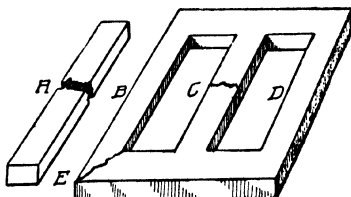

Fig. 35. Simple Case of Expansion and Contraction
**Handling Simple Case of Expansion and Contraction.** We will first consider the simplest condition of welding. Assume that a long bar which is free at each end has broken at point A, Fig. 35. In this case the welding may be carried out without any fear of encountering difficulties due to expansion and contraction. The bar is free to expand and contract at each end. While there might be some warping or deformation due to the heat of welding if the blowpipe is not handled properly, yet, there is very little danger of weakening the weld because of internal strains.
*Methods of Handling.* In welding an article of the general nature, shown in Fig. 35, when the break is in an internal member, such as at *C*, there are several ways of handling it.
*Use of Wedges.* If it is impossible to apply pre-heating at the points referred to, another method may be used. By the use of jacks, wedges, or similar devices, a casting such as shown in Fig. 35 may be sprung or bent out of shape, and the edges of the part to be welded may be separated. After the weld is executed and con-